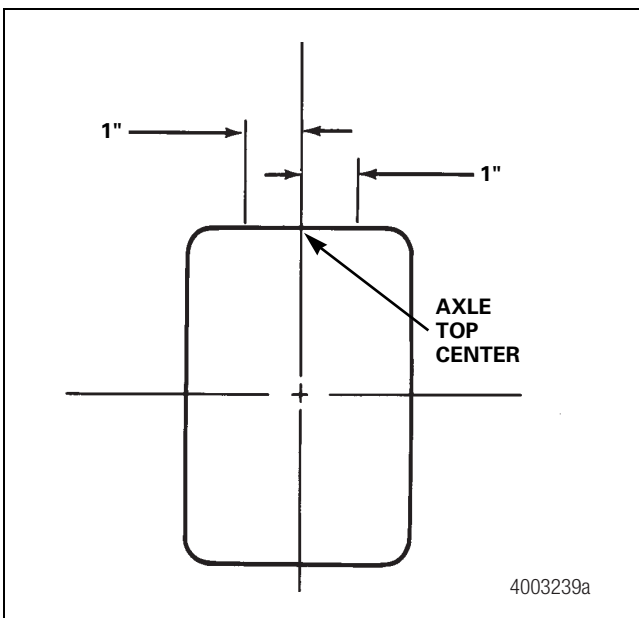

Figure 7.9
- Welding is not allowed within one-inch (25.4 mm) of the top-center of the axle. Figure 7.9.